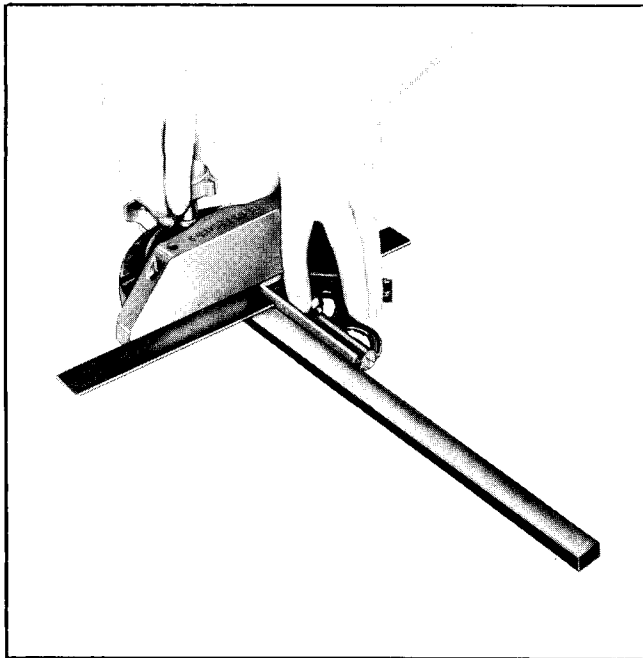

FIGURE 6
2. Using a combination square, set the Miter Protractor Face 90° to Bar and tighten securely. See Fig. 6.